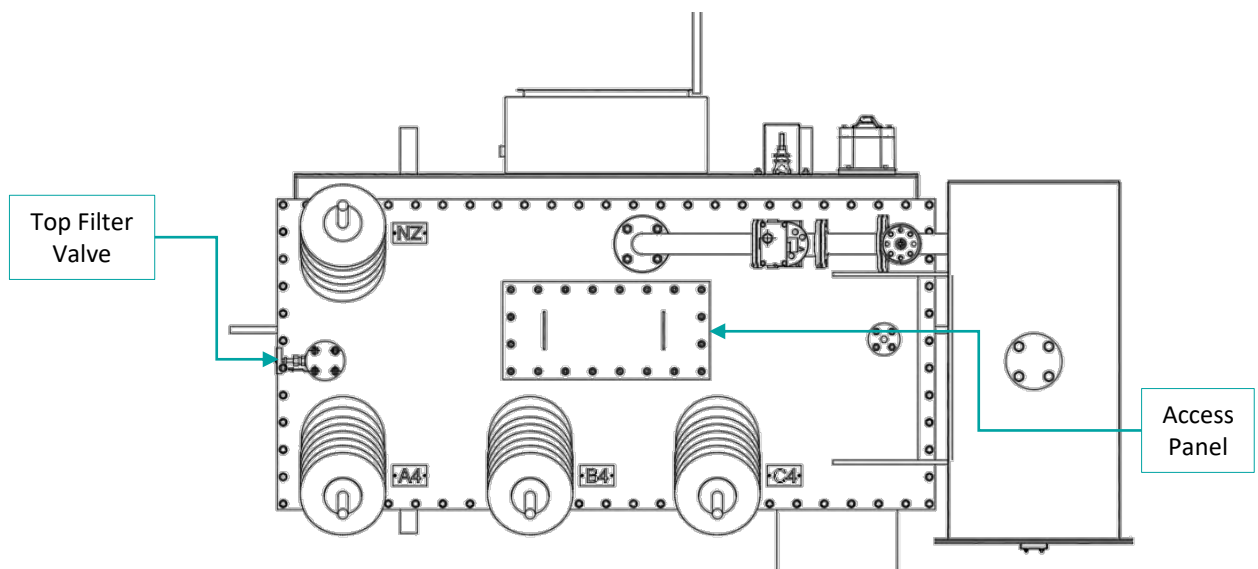

Fig.1 – Top View showing access cover
- 4.2.2.3 Drain approximately 825 Litres of oil into clean oil drums. The oil to be drained via the drain valve at the bottom of the transformer. This will allow the access to the link panel inside the tank. Remove the blanking plate and gasket from the top filter valve and carefully open it to allow air into the tank (refer to Fig.1 for illustration).